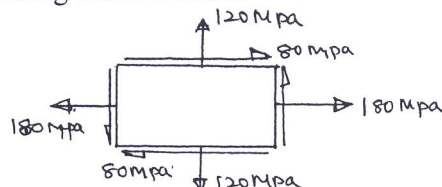

Fig.Q.3(b)
- b. The state of stress at a point in a strained material is as shown in the Fig.Q.3(b). Determine: